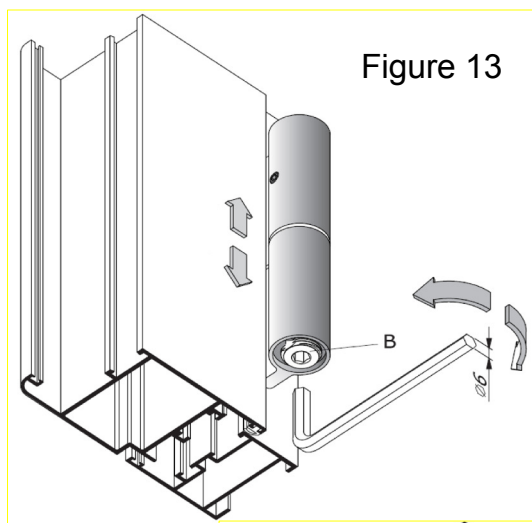

Figure 13
- D. For vertical adjustment insert a 6mm hexagonal key into the grub screw B (See Figure 13) and turn the key until the panel is aligned vertically in the frame.